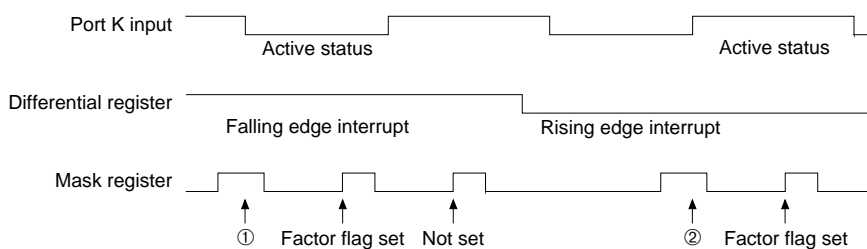

Fig. 5.2.1
When an interrupt is triggered at the falling edge of an input terminal, a factor flag is set with the timing of ① shown in Figure 5.2.1. However, when clearing the content of the mask register with the input terminal kept in the Low status and then setting it, the factor flag of the input interrupt is again set at the timing that has been set.
When an interrupt is triggered at the rising edge of the input terminal, a factor flag will be set at the timing of ② shown in Figure 5.2.1. In this case, when the mask registers cleared, then set, you should set the mask register, when the input terminal is in the Low status. In addition, when the mask register = "1" and the content of the differential register is rewritten in the input terminal active status, an input interrupt factor flag may be set. Thus, you should rewrite the content of the differential register in the mask register = "0" status.
- I/O port (1) When the I/O port is being read out, the in-built pull-down resistance of the I/O port goes ON. Consequently, if data is read out while the CPU is running in the OSC3 oscillation circuit, data must be read out continuously for about 500  $\mu\text{s}$ .
- (2) When the I/O port is set to the output mode and the data register has been read, the terminal data instead of the register data can be read out. Because of this, if a low-impedance load is connected and read-out performed, the value of the register and the read-out result may differ.
- LCD driver (1) When 40H-6FH is selected for the segment data memory, the memory data and the display will not match until the area is initialized (through, for instance, memory clear processing by the CPU). Initialize the segment data memory by executing initial processing.